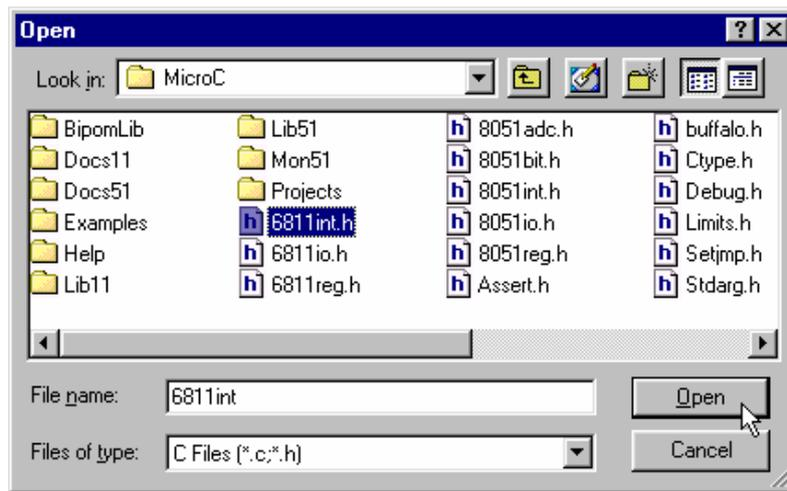

Fig.1
**NOTE:** When you begin executing this example, make sure that the file 6811int.h contains the following line (Fig.2). Use "Open" command under "File" menu (Fig.1) to view the file.